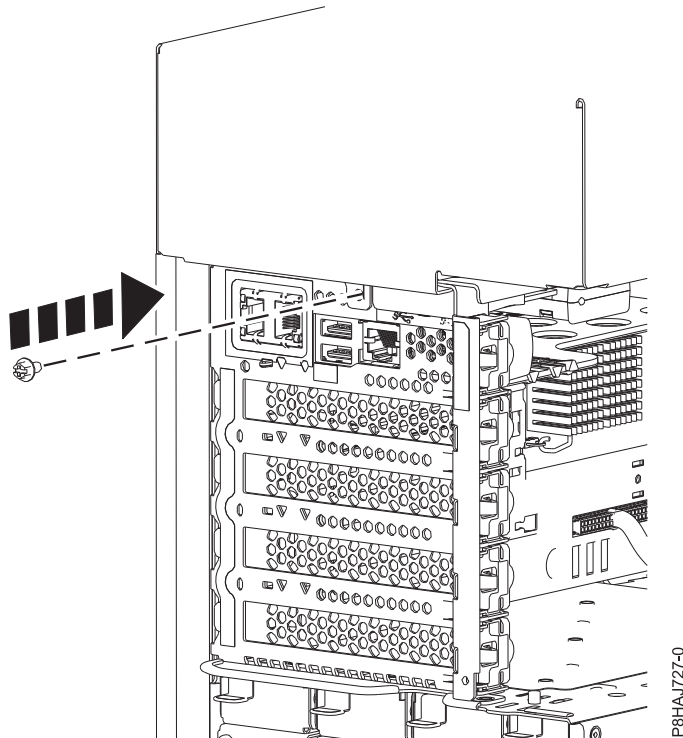

Figure 124. Installing the 8286-41A side cover screw
5. Install the side cover rear screw with a Phillips screwdriver as shown in Figure 124 on page 140.